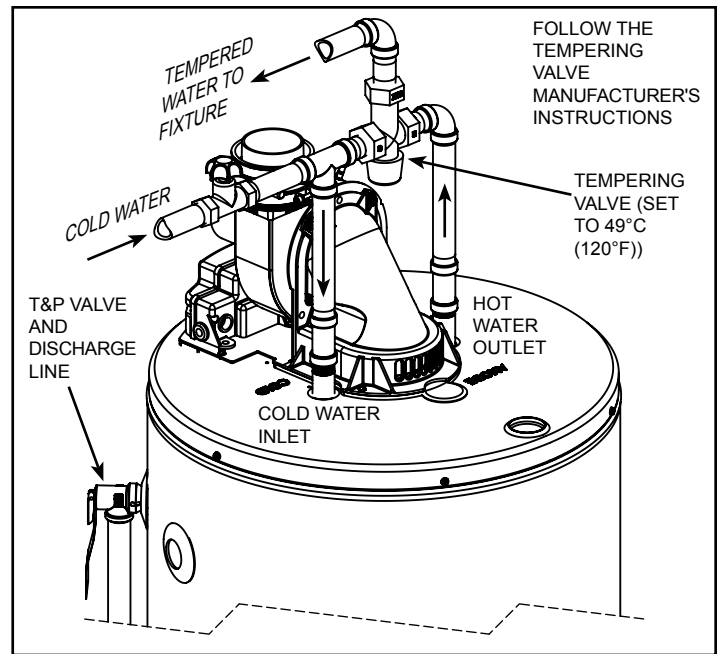

Figure 28
3. The manufacturer of this water heater recommends installing a tempering valve in the domestic hot-water line as shown in Figure 28. These valves reduce the point-of-use water temperature by mixing cold and hot water.